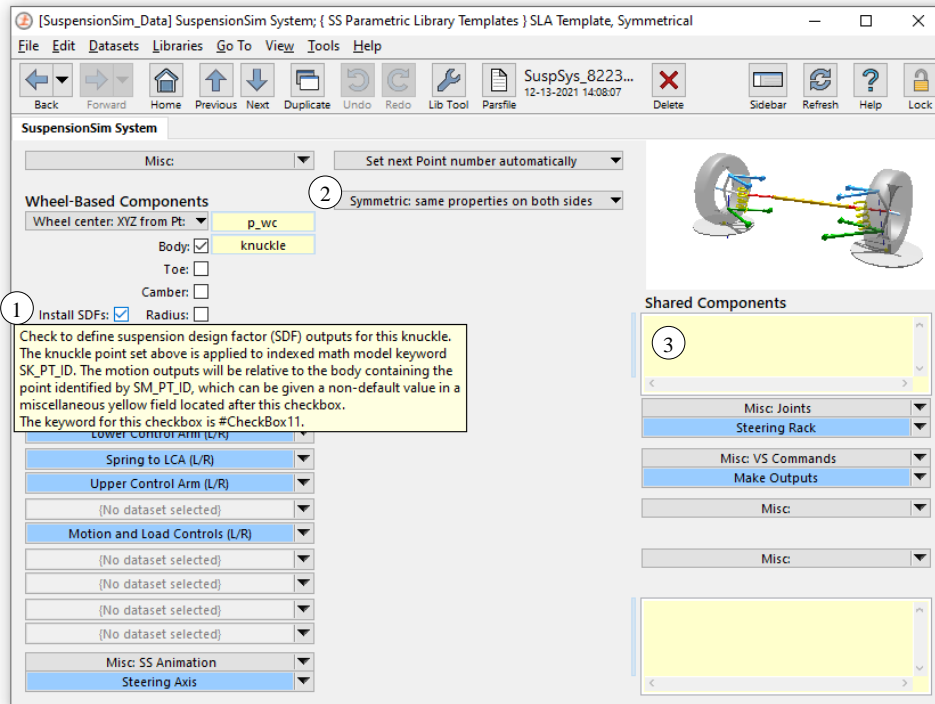

Figure 6. SuspensionSim System screen showing tool tip for the new Install SDFs checkbox.
The SuspensionSim System library screen has a new checkbox in the **Wheel-Based Components** column, **Install SDFs** ①, Figure 6. The checkbox installs outputs for the left, right, or both wheels, depending on the symmetry options ②. This checkbox can be used to activate the new SDF output variables described in the following section.
default value, it can be set anywhere after the checkbox, such as the miscellaneous yellow field on the SuspensionSim System screen (3), Figure 6.